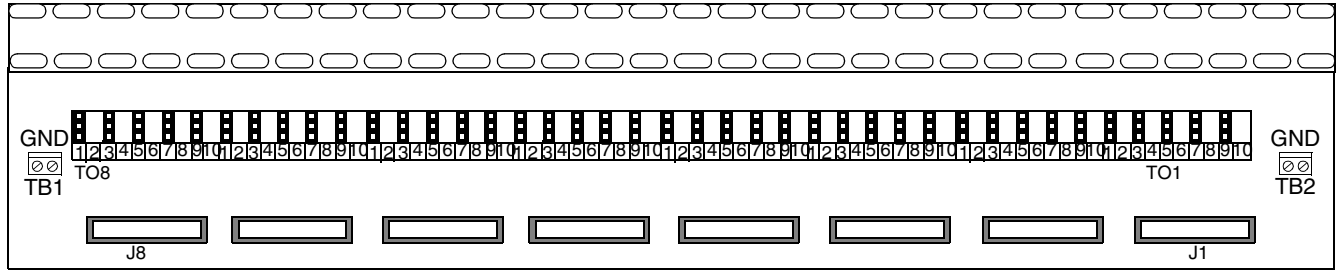

Figure 3. Wire-Wrap Panel
3. Mount the interface panel and shelf for the first expansion shelf directly under the master shelf. Air circulation is provided by the grill on the bottom of the shelf. (See Figures 3 through 5 for interface panels.)